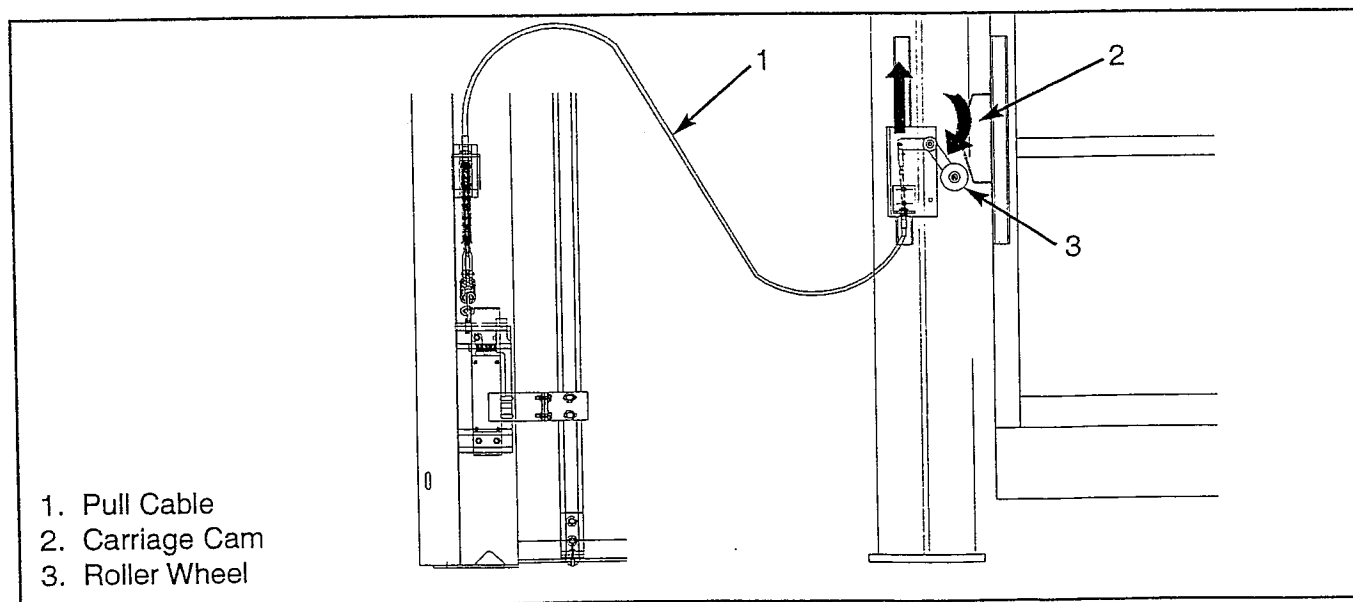

Figure 5
1. Mount the carriage cam to allow 3/4"-1" cable travel (2" maximum cable travel). Make sure the roller wheel clears the edge of the cam. Center the cable travel at the center of the full cable stroke by positioning the cable in the bracket angle. See Figure 5.